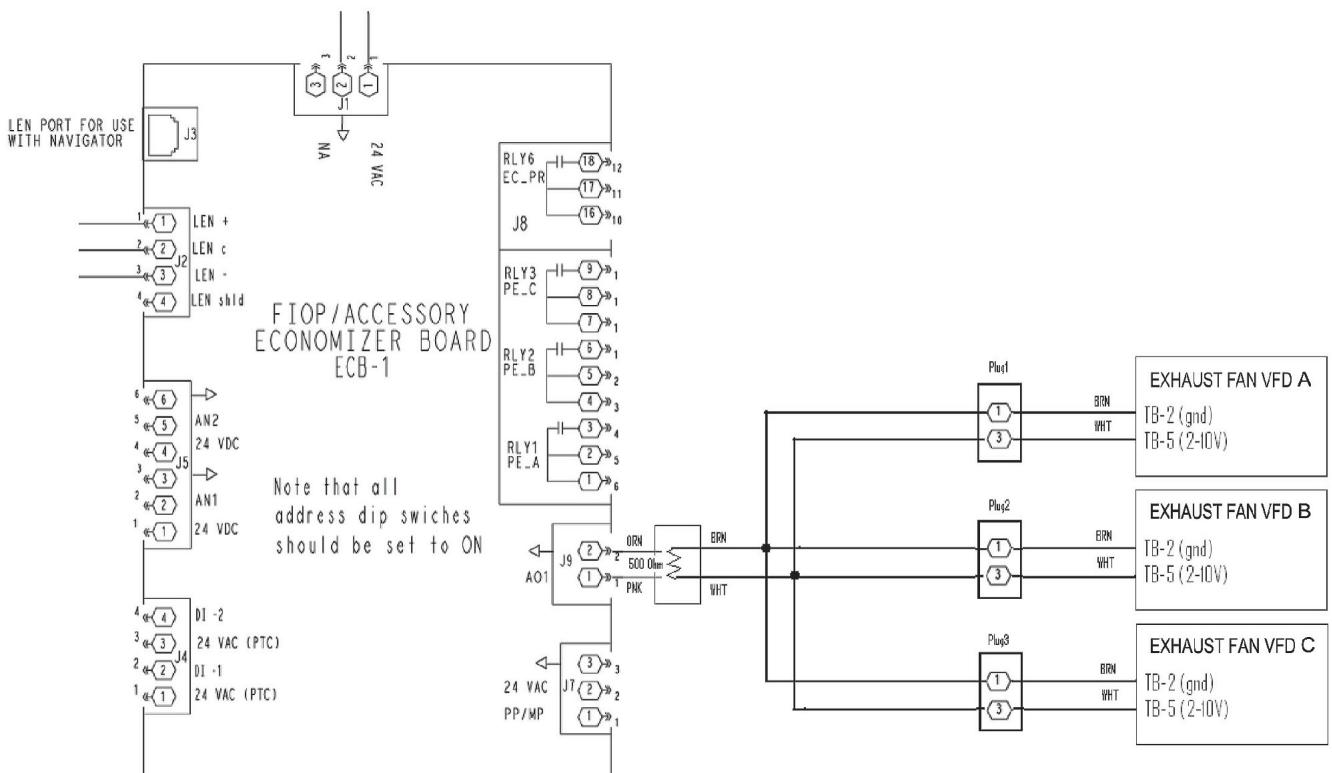

Fig. 8 — Auxiliary Control Box ECB1 Wiring
9. Route the control wiring from the module closest to the auxiliary control panel to ECB-1. Plug the control harness plug with 500-ohm resistor on Terminal J9, pins 1 and 2 on the ECB-1 control board. See Fig. 8. Route the VFD (variable frequency drive) control wiring behind each support panel that separates each exhaust module and plug the control wiring into the VFD of the next module(s).
10. Route the control wiring from the "A" module through the return duct to the auxiliary control panel. Plug the control harness plug with 500-ohm resistor on terminal J9, pins 1 and 2 on the ECB-1 control board (see Fig. 8). For additional module accessory packages, Route the VFD (variable frequency drive) control wiring behind each support panel that separates each exhaust module and plug the control wiring into the VFD of the next module(s).